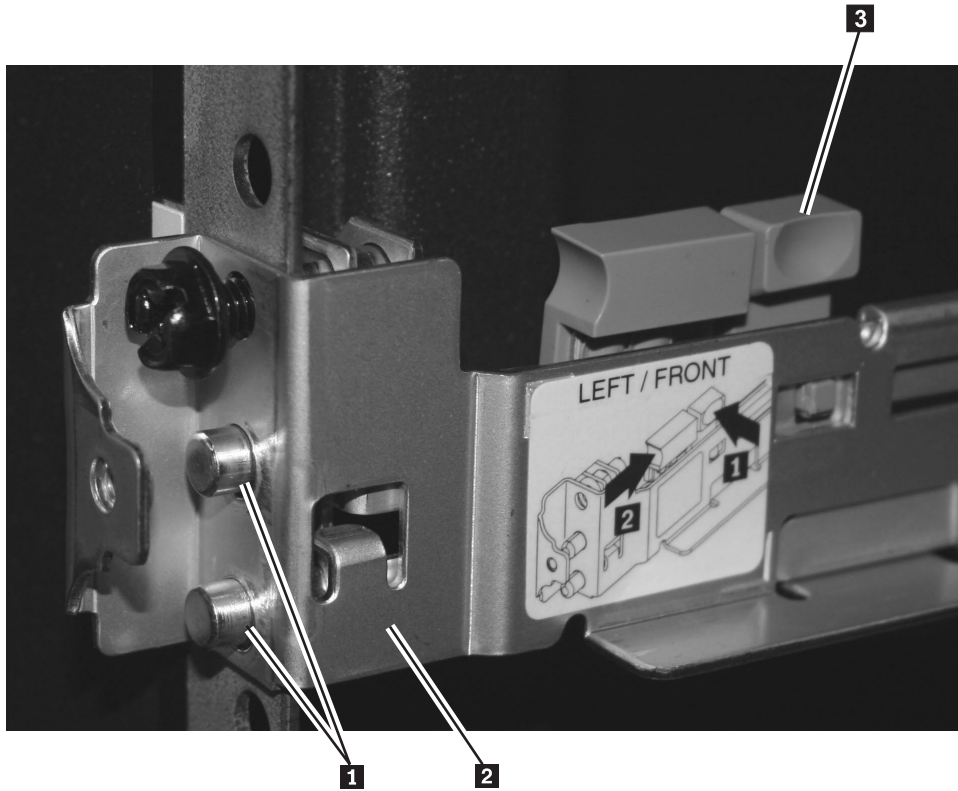

Figure 55. Aligning the pins on the left front support rail for the SAN Volume Controller 2145-8A4 with the front mounting flange
- a. Start from the front and align the pins ( **1** in Figure 55 on page 72) on the front rail-locking carrier with the holes on the rack mounting flange **2** .
- b. Release the rail-locking latch by pushing the smaller blue tab **3** away from the rail. The pins spring into the closed position. Ensure that the pins go fully through the holes in the mounting flange, as shown in Figure 55 on page 72.